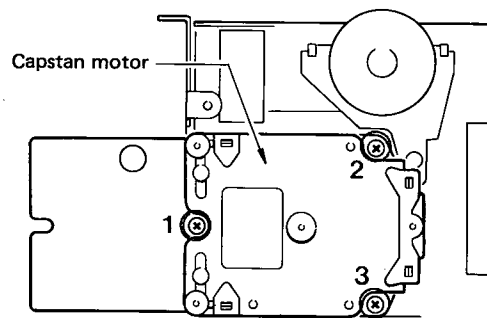

Fig. 14
- c. Remove screws ① through ③ in fig. 14 and then replace the capstan motor.